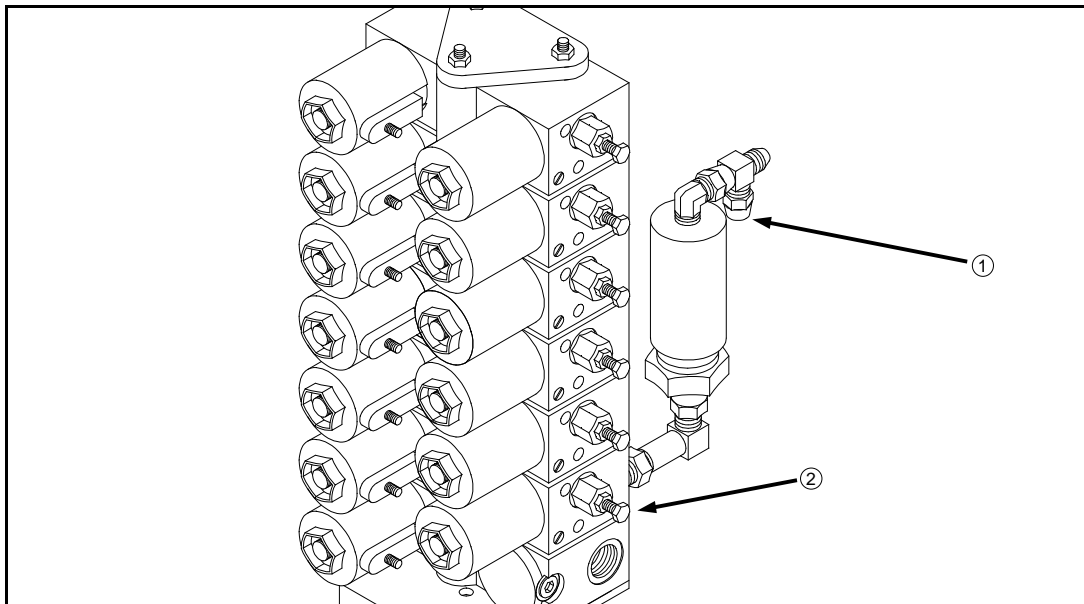

FIG 5.13
Install a 3,000 PSI pressure gauge on the inlet of the electro-hydraulic valve (fig. 5.13, item 1). With the engine running at an idle, raise each unit one at a time with the Tasselrol® box while in “MANUAL” mode. Observe the pressure. Adjust each lift cylinder to 1000 PSI.
To increase the pressure of a given lift cylinder, turn the adjustable screw (fig. 5.13, item 2) on the raise orifice clockwise. To decrease the pressure of a given cylinder, turn the adjustable orifice screw counter-clockwise.